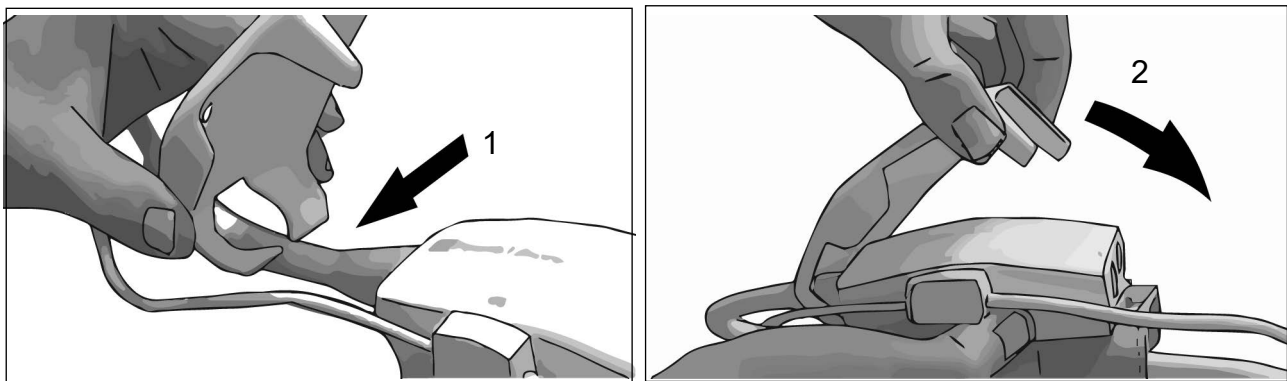

Figure B-1 Applying pressure controller cover
- 2 Place the pressure controller cover's back mounting notch around the pressure controller cable. See step 1 in figure B-1.
- 3 Snap the pressure controller cover over the pressure controller, making sure that the pressure controller cover does not interfere with the heart reference sensor (HRS) connection. See step 2 in figure B-1.